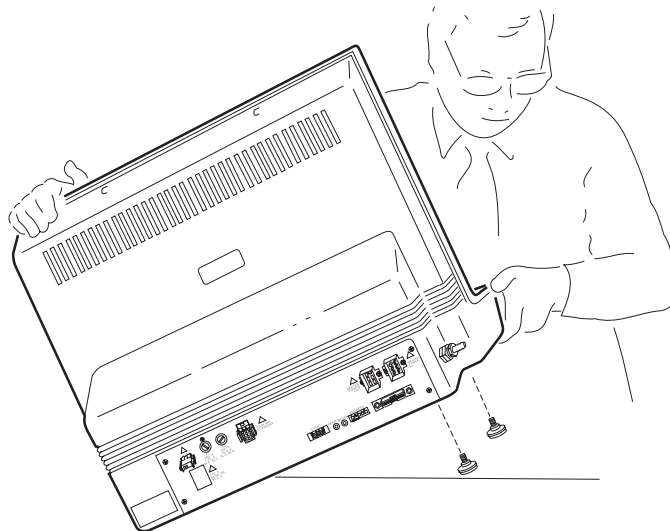

Figure 2.3 Installing the Mounting Feet
8. Have your assistant lift one side of the unit while you use a wrench to install two mounting feet (see Figure 2.3). Rotate the unit and install the two remaining mounting feet in the same manner.
1. Locate the VACUUM fitting on the right side of the DSC 2910 back (see Figure 2.3).